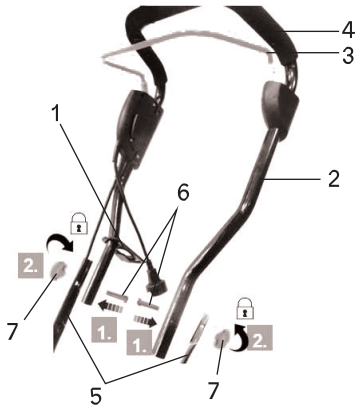

Fig. 5
1. Pass the cord retainer (1) through the upper handlebar (2) and ensure the start lever (3) is in front of the main handle (4) when viewed from behind.(Fig.5)
2. Align the upper handlebar (2) with two lower handlebars (5) (Fig.5).
3. Pass the bolts (6) through the mounting holes of handles (Fig. 5, step 1).
4. Secure the upper handlebar (2) by turning the knob (7) clockwise for tightening (Fig. 5, step 2).